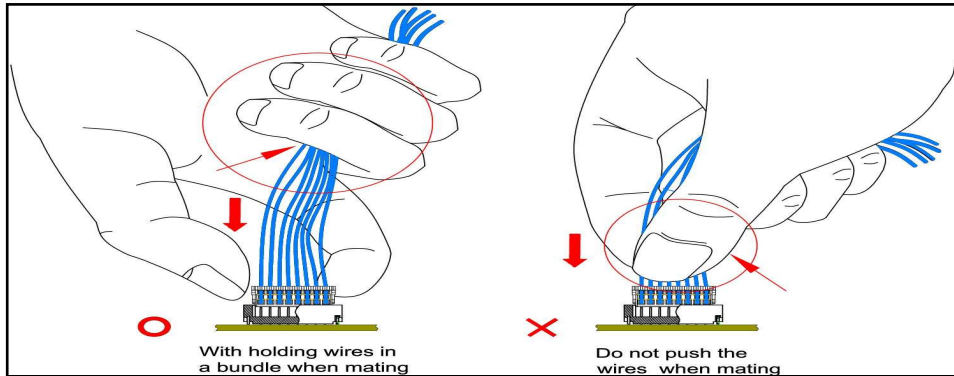

figure 4.2
4.2 Make allowance so that the power of more than the tension by bending the Wire is not applied to the connector when handling the wire. In mating operation, mate a connector with holding wires in a bundle on the same axis to mating axis. (see figure 4.2)